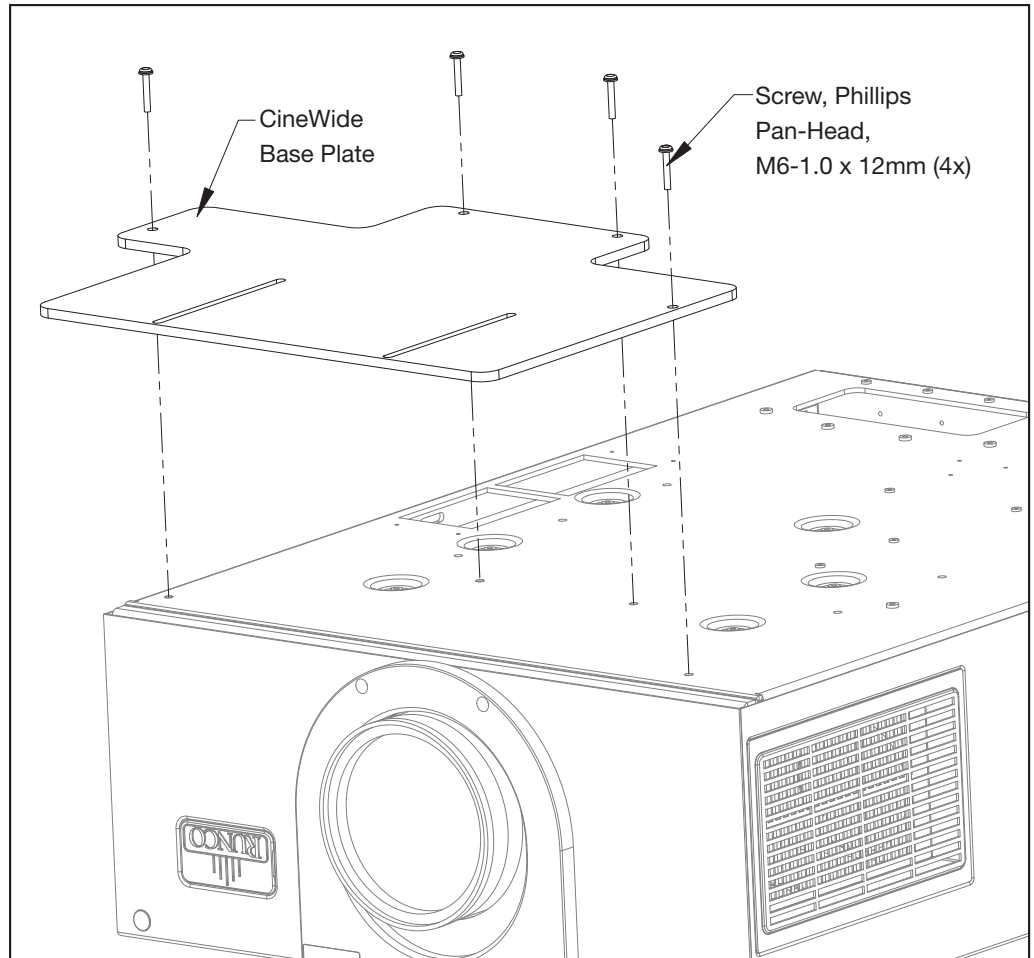

Figure 3-9. Installing the Fixed CineWide Base Plate
2. Line up the mounting holes on the lens mount base plate with those on the bottom of the projector, directly below the primary lens (see Figure 3-9).